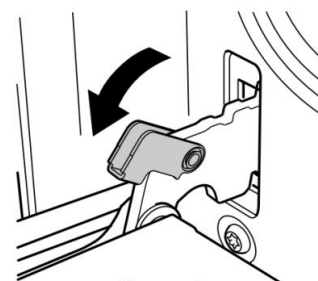

Figure 1
- ① Open the door to the maximum angle and pull the lock back at the hinge of the door (Figure 1). There are two locks on both sides of the oven door.